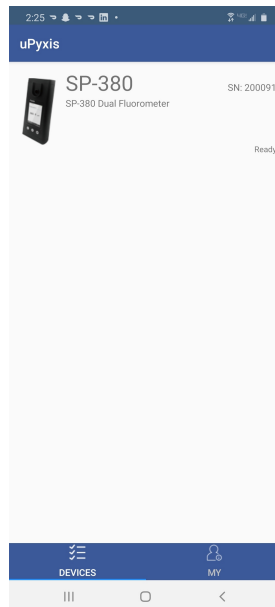

Figure 26.
4. If the connection is successful, the SP-380 and its Serial Number (SN) will be displayed (Figure 26).